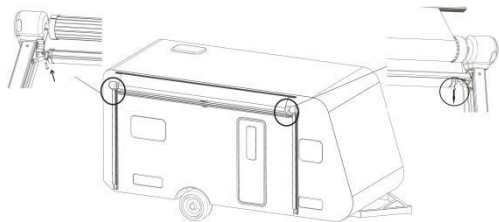
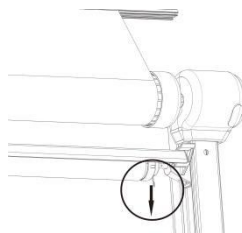

Figure C25
Figure C26
3.10 Install the side roller tube marked with L on the fixed mount on the motor side of the awning(Figure C25), and the side marked with R on the other fixed mount. Then, pull out the safety pins on both sides of the roller tube.(Figure C26)